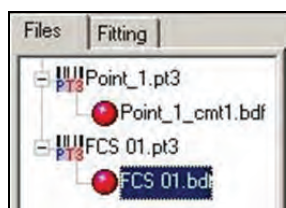
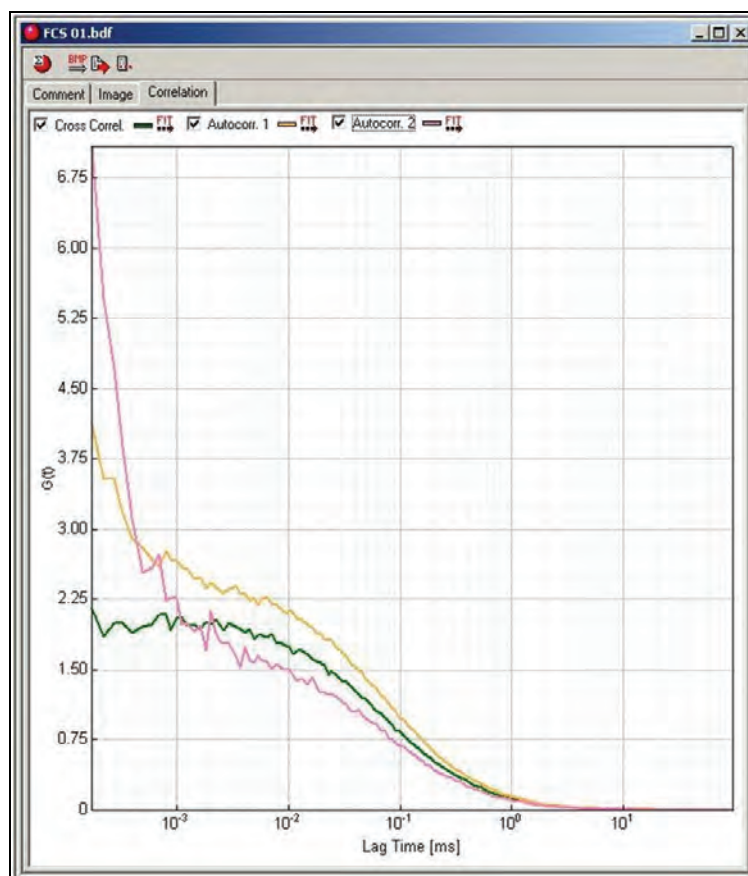

Figure 183: Working area of the annotation file
Figure 184: Display of the FCS curves in the "Correlation" tab of the annotation file
9. At the end of the measurement, the result can be viewed in the annotation file which can be opened from the workspace (**Figure 183**). Open the **Correlation** tab as shown in **Figure 184**. The curves can be analyzed by selecting the **FIT** button that corresponds to the cross-correlation or autocorrelation curve.